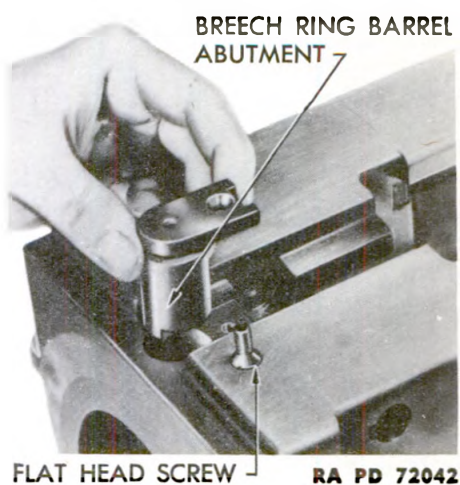

Figure 150 – Breech Ring Barrel Abutment – Disassembled
e. **Breech Ring Barrel Abutment.** Remove the flat-head screw which holds the breech ring barrel abutment in place in the top of the front end of the breech ring (fig. 150). Remove the abutment. Replace the damaged abutment with a new one and install.
b. **Automatic Loader Installation.** With the loading tray installed in the loader (par. 81 g (8)), attach the front and rear loader lifters to the automatic loader. Lift the automatic loader and carefully place the front ends of the guides in the guideways of the breech casing. Slide the automatic loader forward until it is supported by the guideways. Remove lifters and slide the automatic loader forward until the loading tray attaching bolt can be inserted and locked with its bayonet connection.